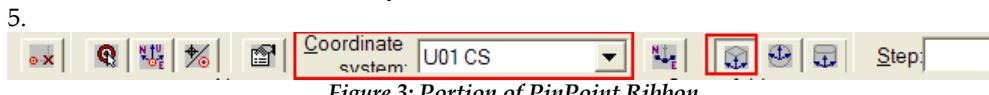

Figure 3: Portion of PinPoint Ribbon
4. Click the **Rectangular Coordinates** option on the **PinPoint** ribbon (Refer to Figure 3) and set the active coordinate system to **U01 CS**.